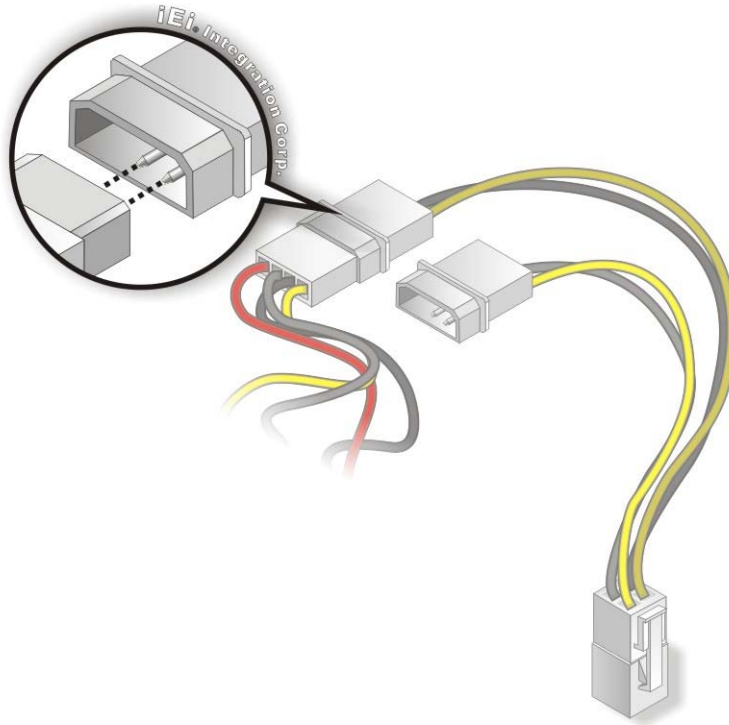

Figure 4-20: Connect Power Cable to Power Supply
Step 3: **Connect Power Cable to Power Supply.** Connect one of the 4-pin (1x4) Molex type power cable connectors to an AT/ATX power supply. See **Figure 4-20**.